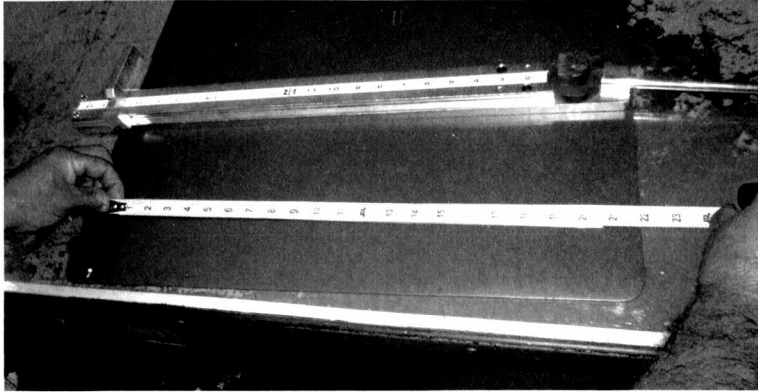

Figure 13
- 12.) Remove the s/a from the "Float Rod Bender". Using a tape measure, measure the length of the bent wire to verify the length is within specification (Figure 13).